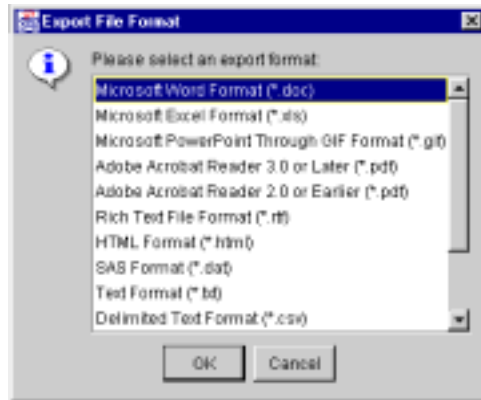

Figure 5.145 Export File Format Window
3. On the ETEdit (main) window, on the File menu, click Export Items... . The Export File Format window opens (Figure 5.145).